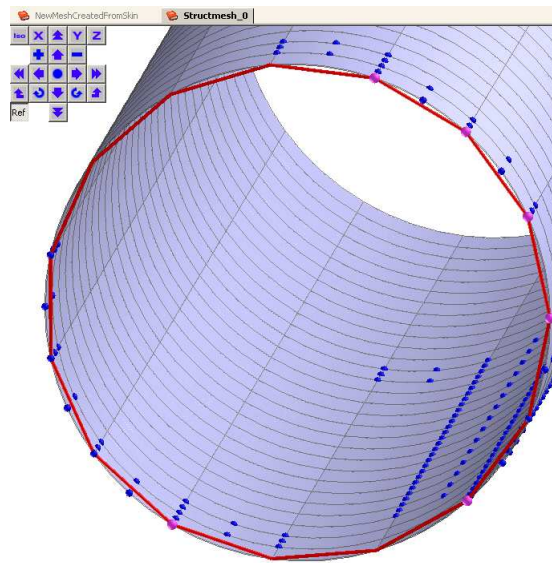

Figure 5.30: Accept Seam.
- Accept the seam by pressing: **Skin** → **Accept Seam**. See Figure 5.30. **Delete Selected Seams** and **Delete All Seams** could be used to remove seams already constructed. To select a seam for deletion, left-click on the seam while holding down the *shift-key*.